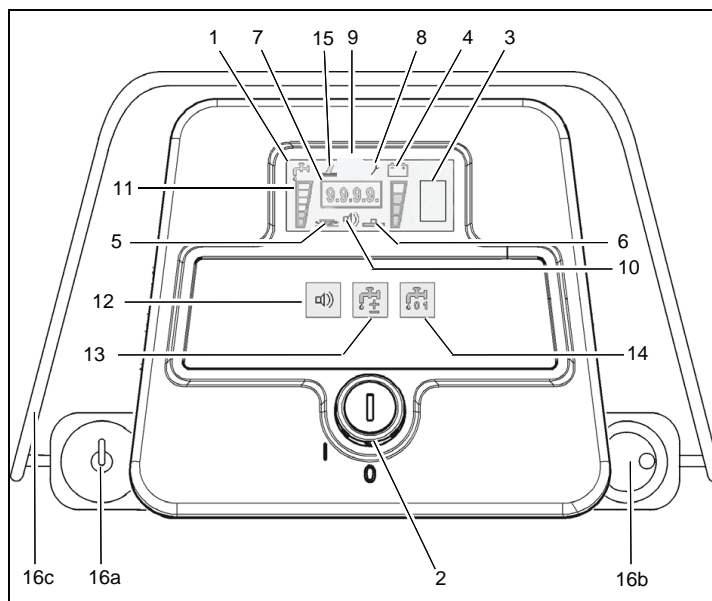

Fig.4
3. Switch on solution supply by means of tip-switch (Fig. 4/14).
4. Adjust solution amount by means of tip-switch (Fig. 4/13) to lower brush deck. Solution supply switches on automatically.
5. Use the speed control knob (Fig. 4/16b) to adjust the work speed. Use the direction switch (Fig. 4/16a) to select forward or reverse. Pull the bail handle (Fig. 4/16c) to start moving.
Display (Fig. 4/1)
Battery charge indication (Fig. 4/3)
free (Fig. 4/9)
Silence Kit tip symbol (optional) (Fig. 4/10)
Solution flow symbol (Fig. 4/11)
Silence Kit tip-switch (optional) (Fig. 4/12)
LDS indicator (Fig. 4/4)
Symbol brush drive (Fig. 4/5)
Symbol vacuum motor (Fig. 4/6)
Solution flow tip-switch (Fig. 4/13)
Solution supply ON/OFF tip-switch (Fig. 4/14)
Scrubbing tool symbol (optional) (Fig. 4/15)
Hourmeter (Fig. 4/7)
Service indicator (Fig. 4/8)
Drive direction control with speed control knob/bail handle (Fig. 4/16)